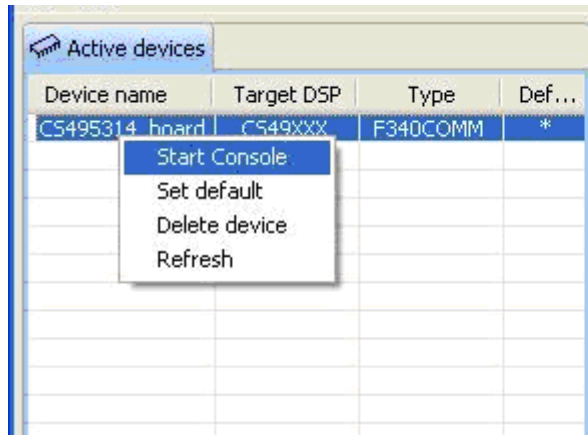

Figure 3-4. Opening a Console Window from Cirrus Device Manager
2. Right click on the board that is listed/detected (e.g.: CS495314_board), and click on “Start Console” menu option, as shown in Figure 3-4.